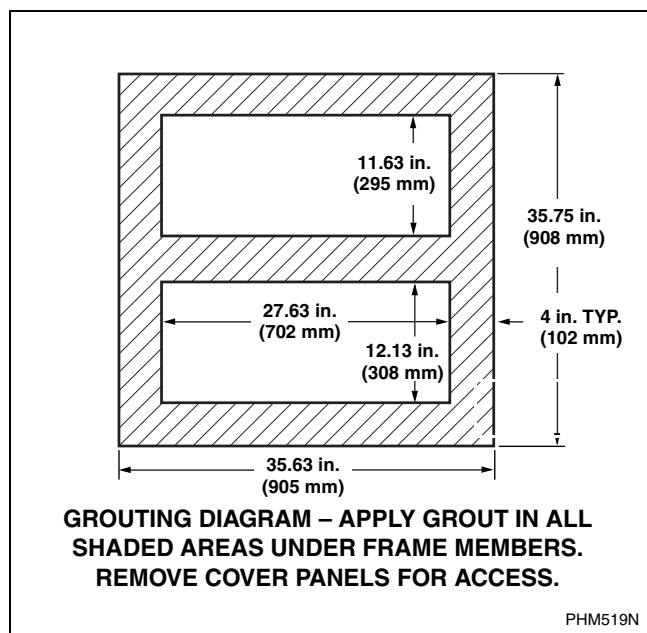

Figure 5
2. Set machine over bolts and shim the machine so that it sits level and is 1/2 inch off the floor. Apply machine grout between the floor and all frame members of the base of the machine (remove front panel and expanded metal back panel to gain access to all frame members). Force grout under machine base until all voids are filled. Refer to *Figure 5*.